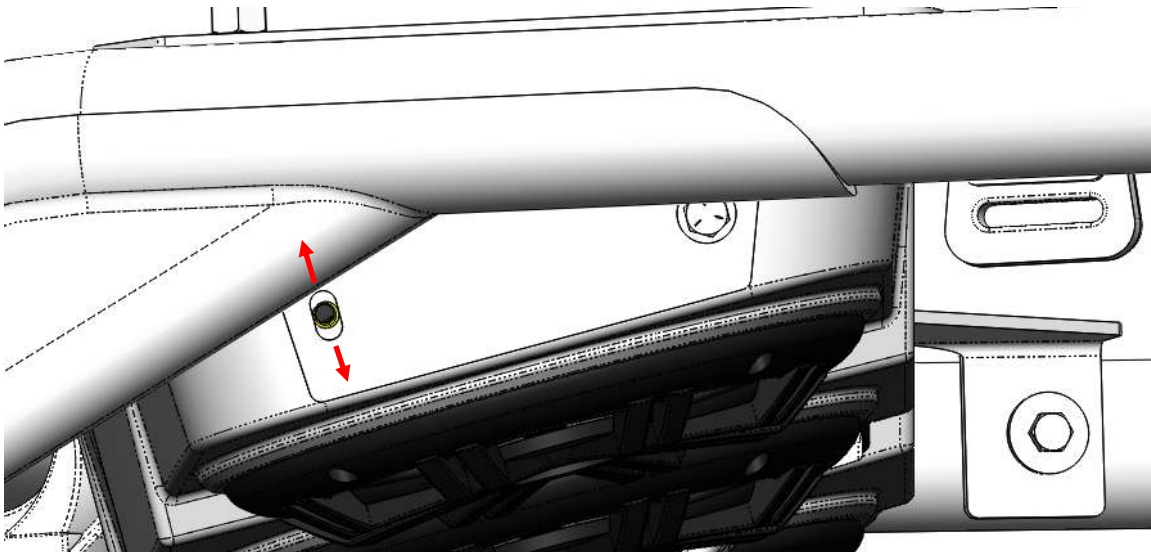

Figure 9: Up-down positioning of the Audio Mini.
7. Tighten the 4 mounting bracket bolts after achieving the desired up-down position relative to the roof or roll cage. Slots in the brackets allow up-down movement. See Figure 9.